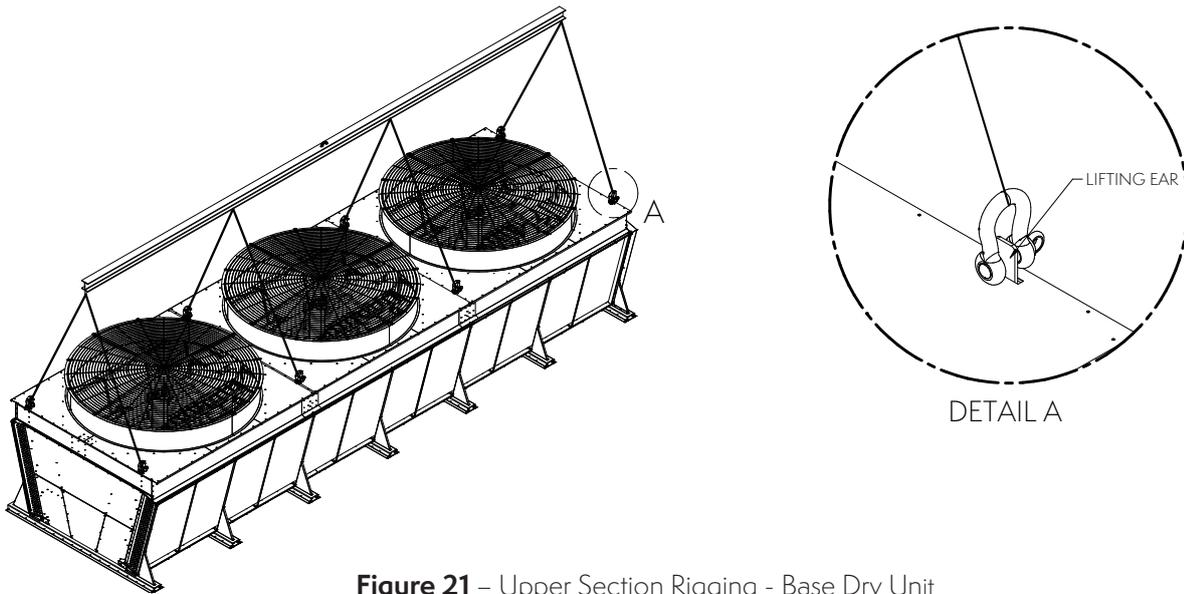

Figure 21 – Upper Section Rigging - Base Dry Unit
1. Use lifting ears on top of the upper section as shown in Figure 21. An adjustable/spreader lifting beam is required to be used along the entire unit length. Refer to the below instructions for lifting the Double Stack upper section.